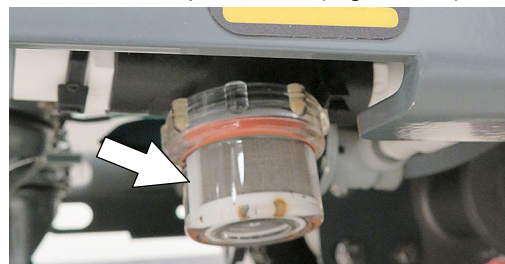

FIG. 157
2. Empty the water from the solution tank filter located under machine. Replace filter (Figure 157).